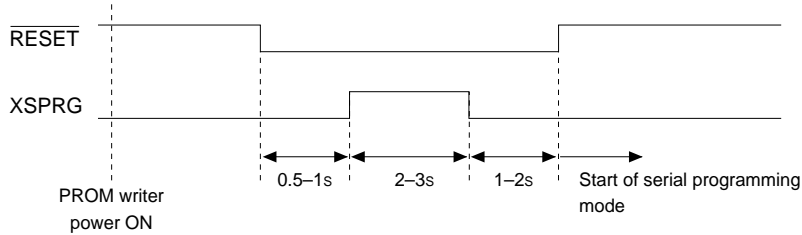

Fig. 2.2.2.1 Timing chart for entering serial programming mode
(3) Turn the PROM writer on.
(4) Controls the $\overline{\text{RESET}}$ and XSPRG terminals as shown in Figure 2.2.2.1.